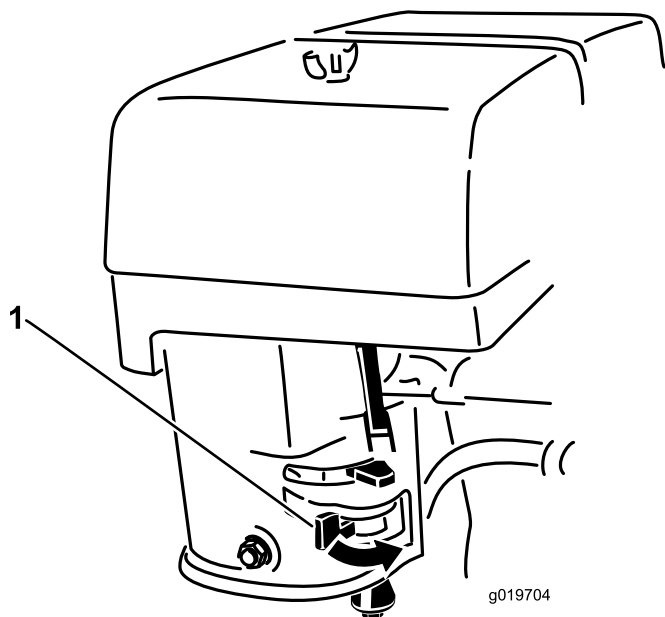

Figure 12
2. Move the fuel valve to the On position (Figure 12).